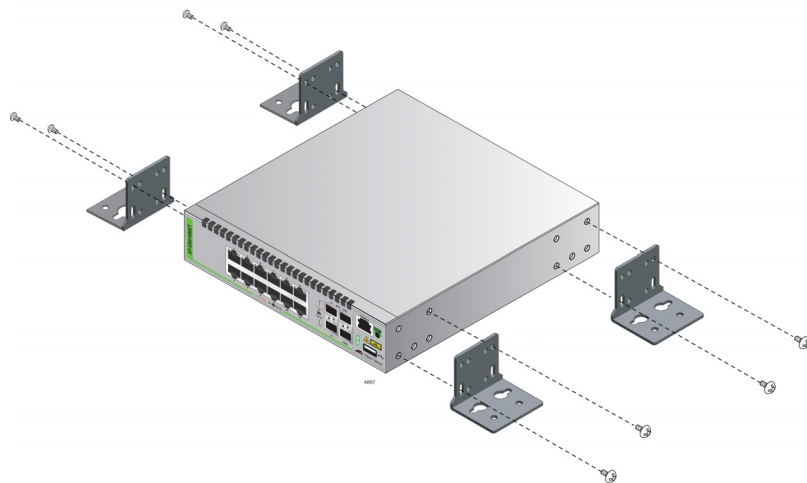

Figure 23. Attaching the Wall Brackets
4. Attach each bracket to the switch using two screws, which should be installed diagonally as shown in Figure 23.